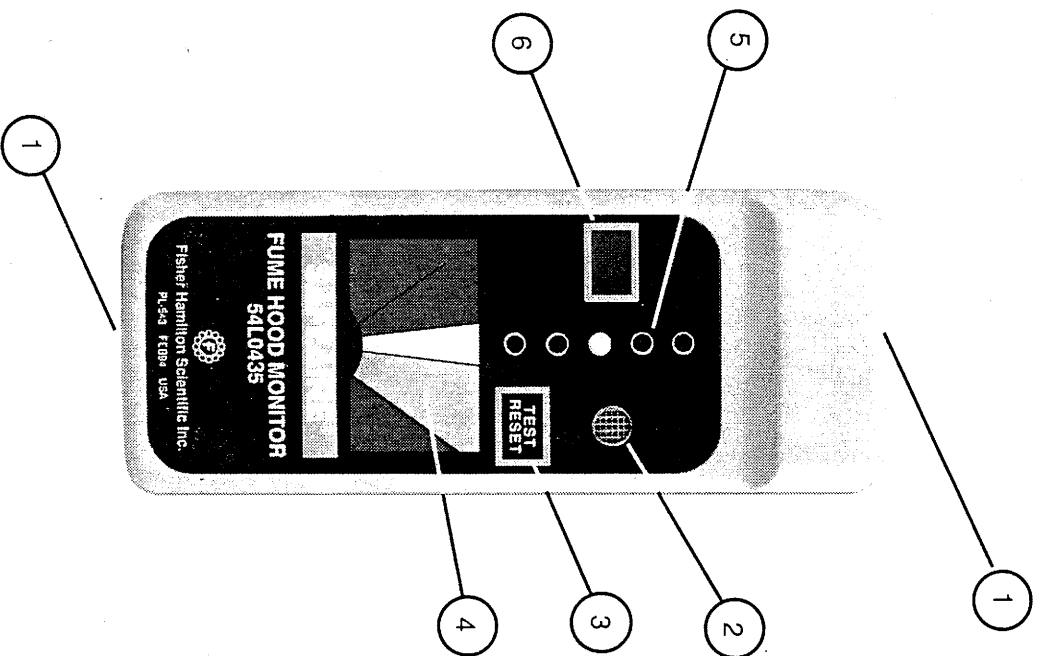

Figure 1.
Table 1. Description of the Front of the Monitor, reference figure 1.
- Step 1: Detach the back plate from the monitor by unscrewing the top and bottom screws (figure 1, item 1).
Step 10: Secure the monitor to the back plate using a screw on the top, and a screw at the bottom (figure 1, item 1). If front power cord routing is used, be careful to place the cord into the notch provided in the bottom of the front cover before securing the screws.